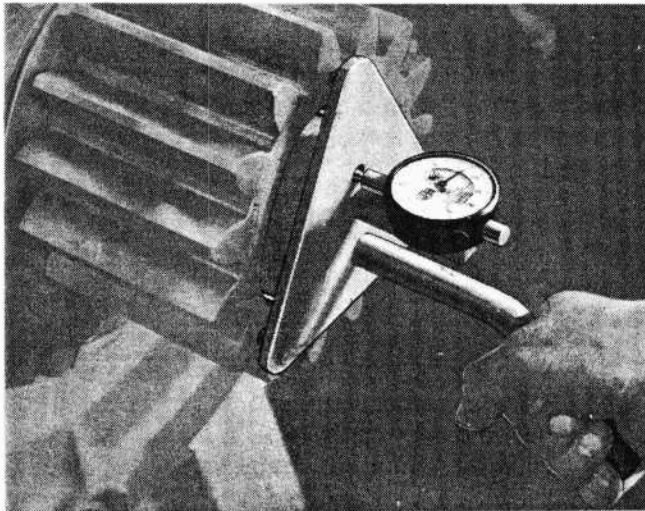

Fig. 30 - Measuring Pinion Advance
6. Measure and record pinion position with respect to the shaft with a micrometer depth gauge, Fig. 30.